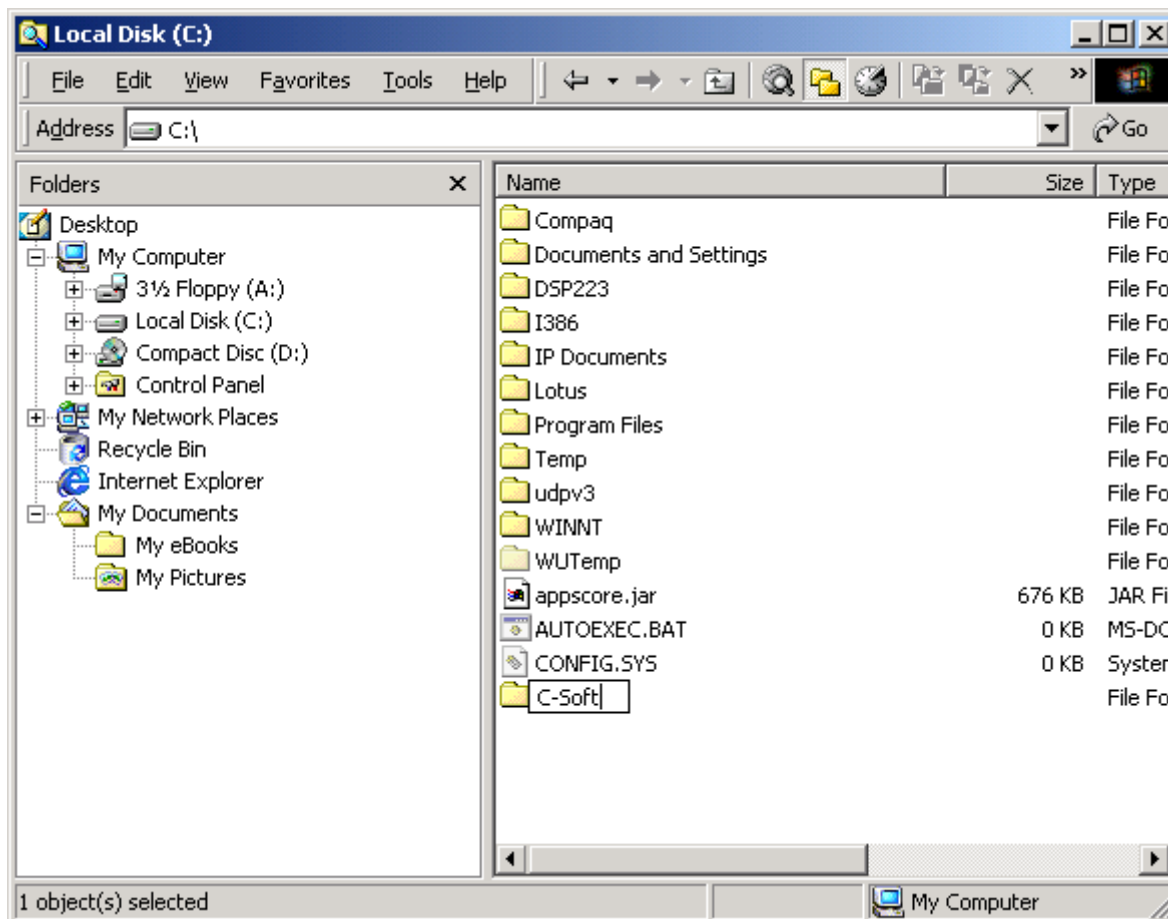

Figure 1 – Adding a Directory for C-Soft
Step 1: Open Windows Explorer and create a new subdirectory under the root directory called C-Soft. This can be accomplished by selecting a local hard disk drive (typically drive C:) in the left pane of Windows explorer. In the right pane, right click on an open spot and select New->Folder. The folder will appear and allow the user to enter a name for the new folder. Use C-Soft. See Figure 1 for creation of the directory.